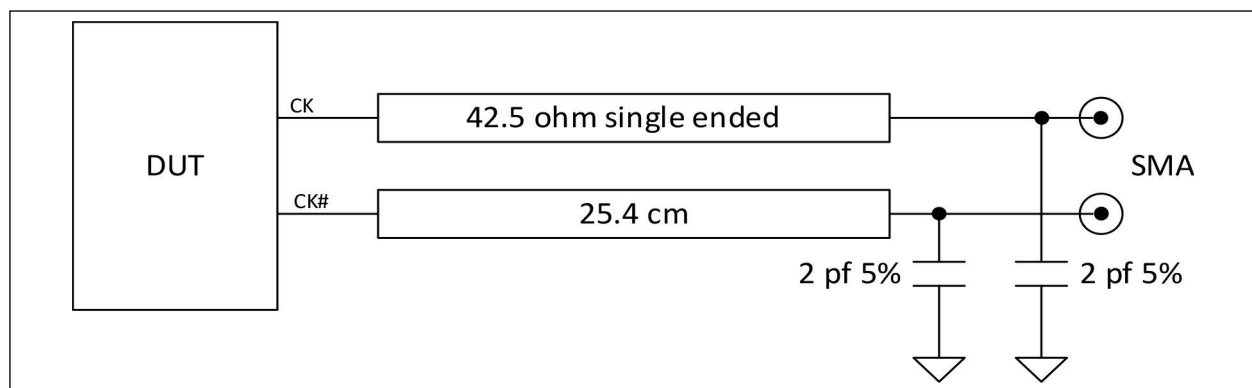

FIGURE 5-5: AC TEST LOAD AS PER DB2000QL SPECIFICATIONS.
- Note 1:** Measured into AC test load as per Figure 5-5.
Note 1: Measured into Figure 5-5 AC test load.